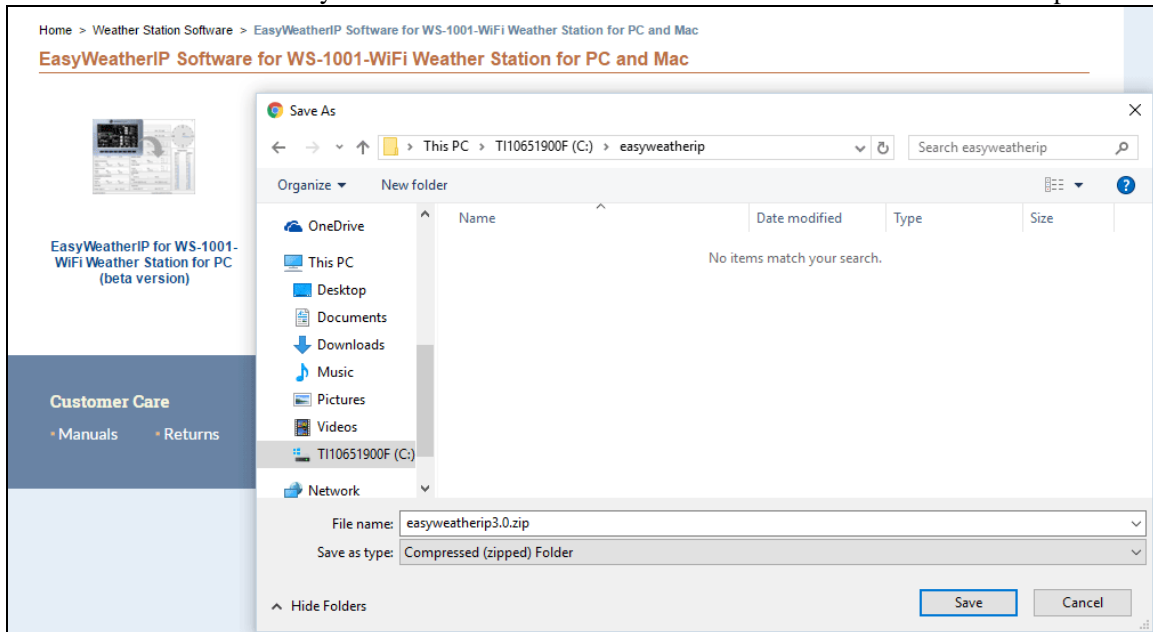

Figure 38
2. Save the compressed (zip) file to your local computer drive, as shown in Figure 38. Please